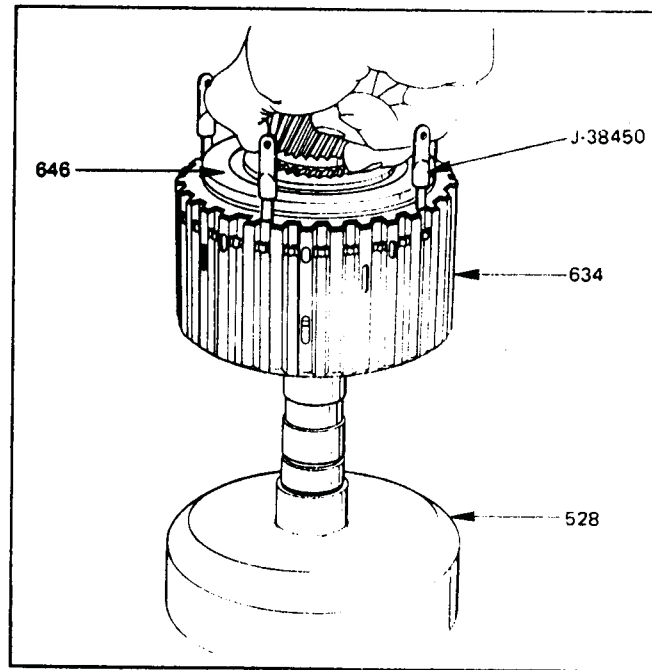

Figure 72
5. Repeat the process with a third tool blade opposite the first two, shown in Figure 72.